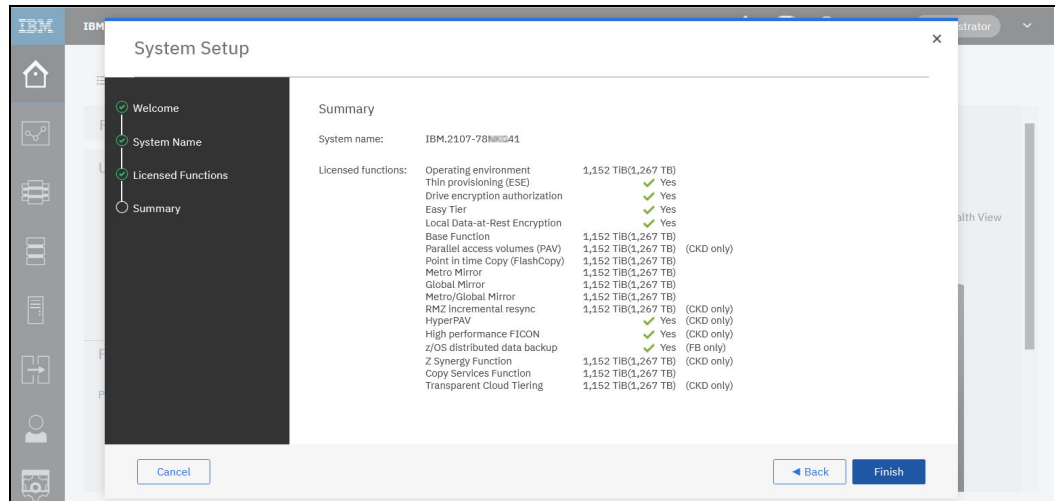

Figure 7-7 Summary of licensed functions
- Click **Summary** in the System Setup wizard to view the list of licensed functions or feature keys that are installed on your DS8000, as shown in Figure 7-7. With **Finish** you leave the wizard dialog.